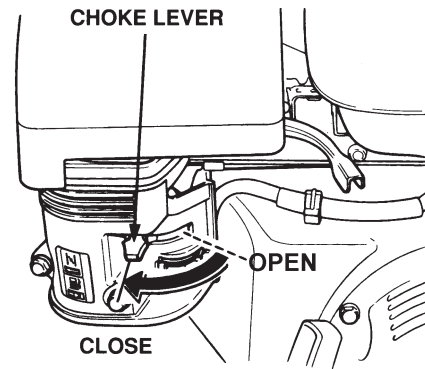

Figure 14. Choke Lever
4. Place the **Choke Lever** (Figure 14) in the "CLOSED" position.
7. If the engine has started, slowly return the choke lever (Figure 14) to the **"OPEN"** position. If the engine has not started repeat steps 1 through 6.